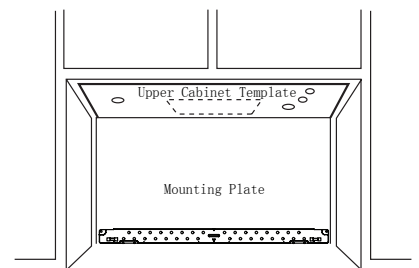

Figure 25
5. Measure the bottom of the upper cabinet frame. Trim the edges A, B, and C on the upper cabinet template so that the template will fit on the bottom of the upper cabinet. If upper cabinet has a recessed frame, trim the template so it fits inside the recessed area. Align the centerline of the upper cabinet template with the centerline of the rear wall template, then securely tape or tack the upper cabinet template in place. See Figure 25.